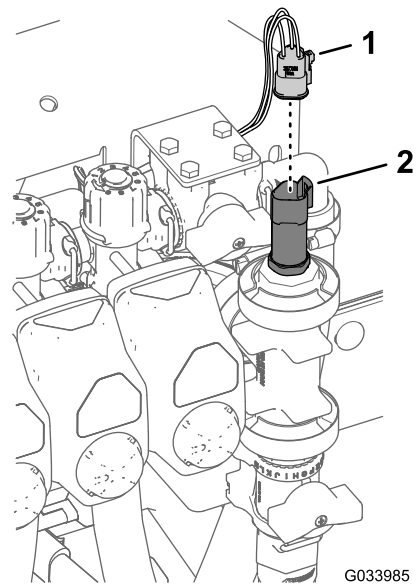

Figure 19
3. Assemble the control-valve bracket to the manifold mount (Figure 19) with 4 flange head bolt (6 x 16 mm) and 4 flange locknut (6 mm); torque the bolts to 10 to 12 N·m (86 to 106 in-lb).
5. Connect the 3-socket connector for the pressure transducer (Figure 19).